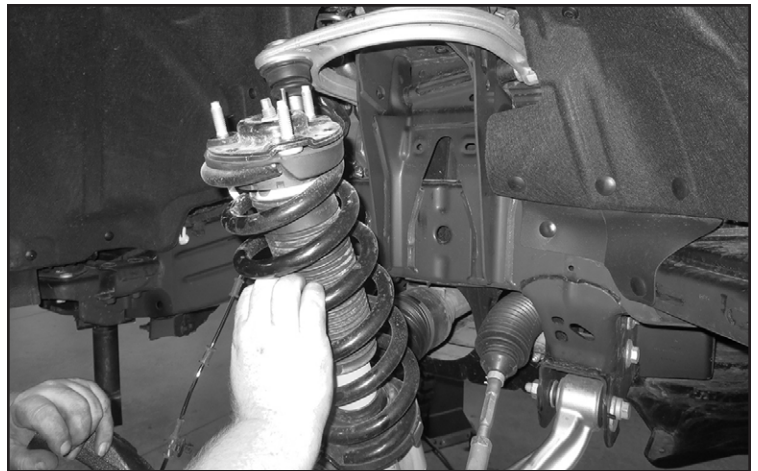

FIGURE 9 - STEP 7
9. Using a paint pen. Mark the top strut cap and lower strut body to retain the correct orientation. Remove the three nuts attaching the coilover to the upper mount then remove the factory coilover by pushing down on the lower control arm. **SEE FIGURE 9**